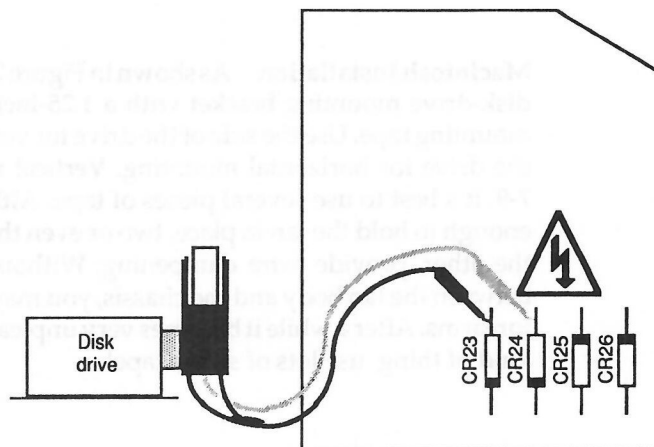

Figure 7-10 On the U.S. analog board, 115-V AC fans connect to the top of diodes CR23 and CR24.
As shown in Figure 7-10, the 115-V AC fan wires connect to the top of diodes CR23 and CR24 on the U.S. analog board.
3. As shown in Figure 7-10, attach the micro test clips to the top of diodes CR23 and CR24, or to the top of diodes CR24 and CR25, or to the top of diodes CR25 and CR26. All three combinations put the fan directly across the AC line. Any one of the three combinations is fine.